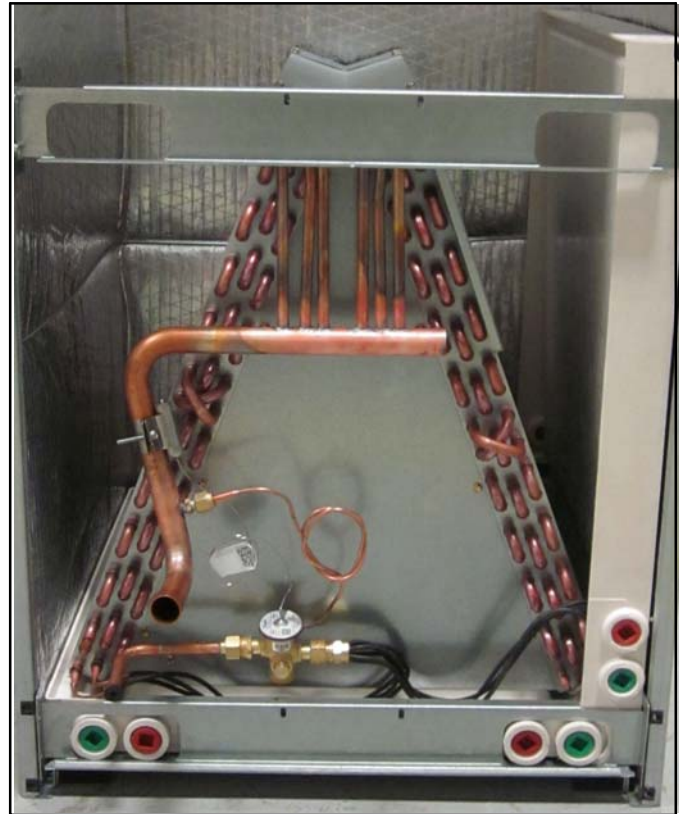

Figure 9. Reinstall Brackets that Hold the Coil and Horizontal Drain Pan in Place
7. Reinstall the brackets that hold the coil and horizontal drain pan in place. See figure 9.